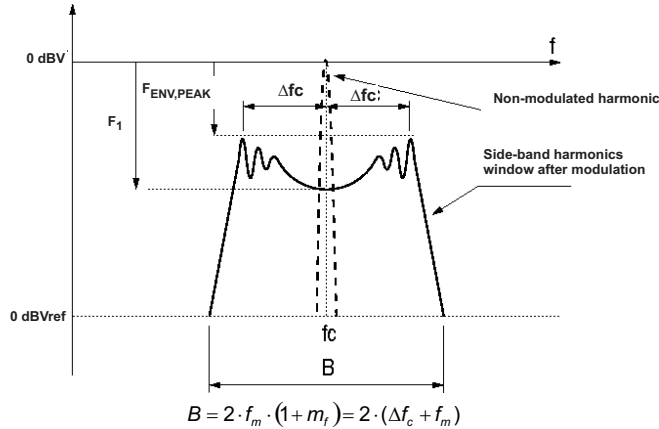
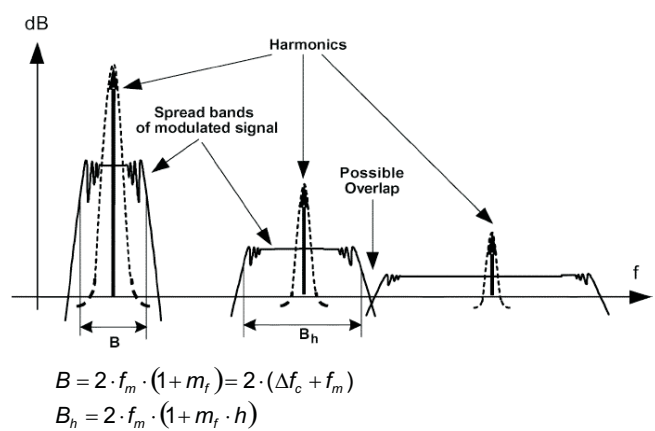

Figure 26. Spectrum of a Frequency Modulated Sin. Wave with Sinusoidal Variation in Time
Figure 27. Spread Bands of Harmonics in Modulated Square Signals ⁽¹⁾
(1) Spectrum illustrations and formulae (Figure 26 and Figure 27) copyright IEEE TRANSACTIONS ON ELECTROMAGNETIC COMPATIBILITY, VOL. 47, NO.3, AUGUST 2005. See References section for full citation.